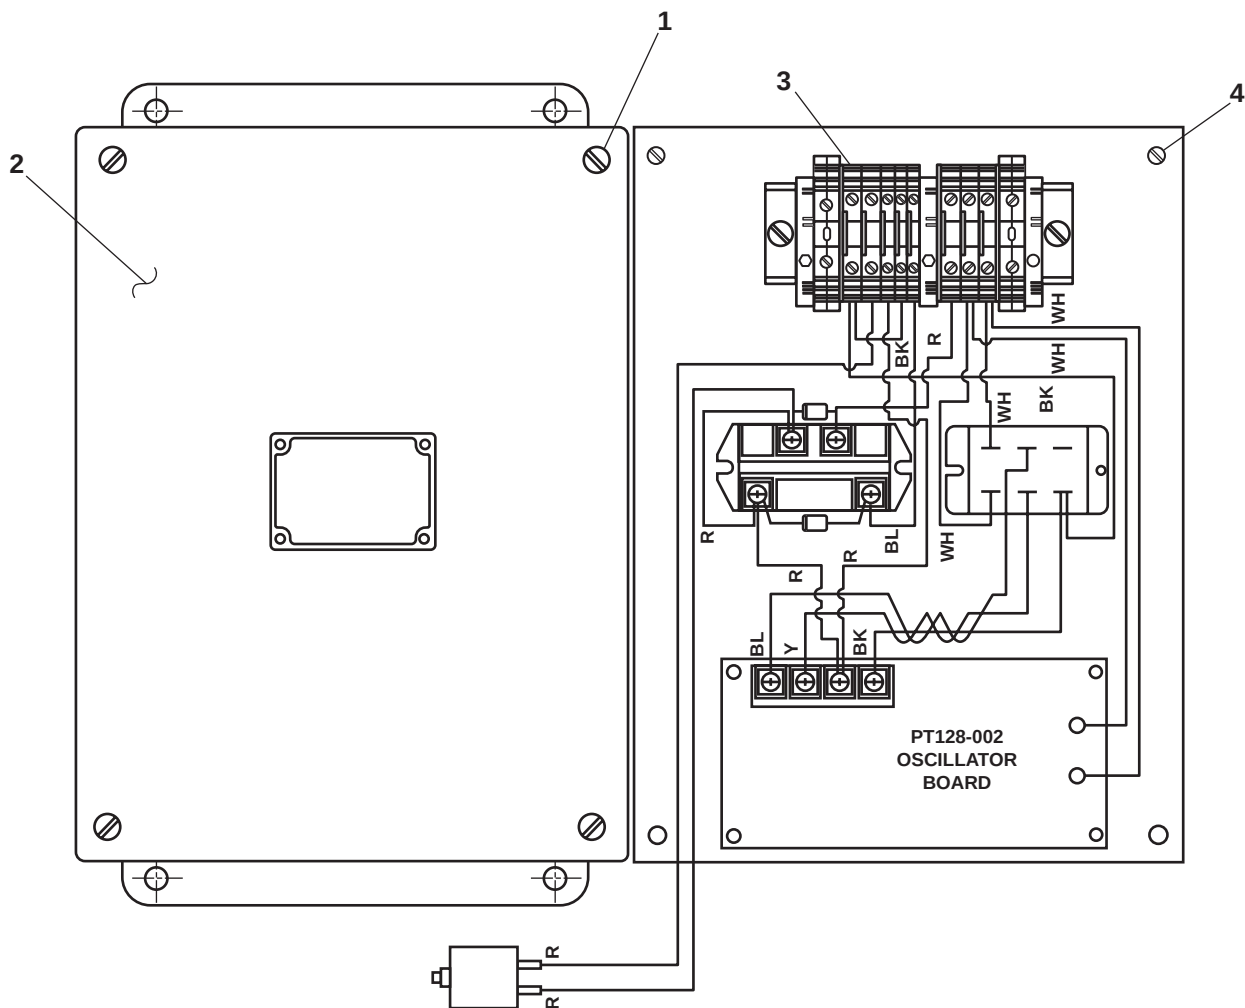

Figure 3. Oscillator
1. Remove the four screws (figure 3, item 1) that secure the cover (figure 3, item 2) to the oscillator. Remove the cover.
2. Use a multimeter to check for the presence of voltage at the terminal board (figure 3, item 3). If voltage is present, verify that the correct circuit breaker is set to OFF, locked out, and tagged out (FM 55-502). If no voltage is present, continue with the procedure.
3. Label and remove the wiring from the terminal board (figure 3, item 3).
4. Remove the four screws (figure 3, item 4) and remove the oscillator.
1. Install the oscillator and secure it with the four screws (figure 3, item 4).
2. Install the wiring to the terminal board (figure 3, item 3) using the labels from step 3 of Removal as a guide. Remove the labels.
3. Install the cover (figure 3, item 2) and secure it with the four screws (figure 3, item 1).